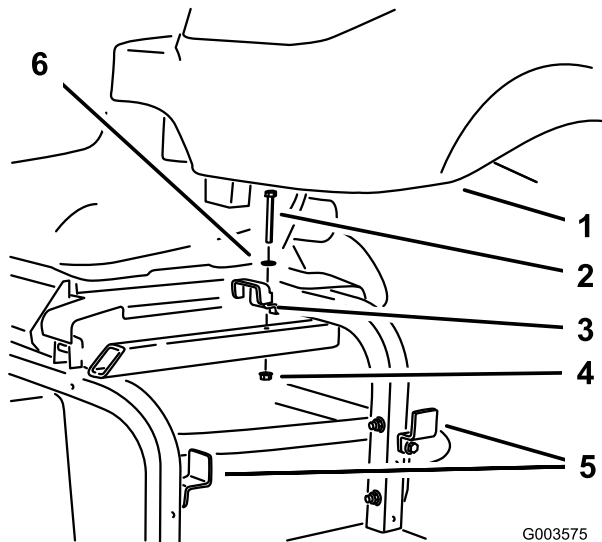

Figure 7
9. Remove the top hydraulic tank bracket from the machine frame and loosen the two brackets on the side of the frame. (Figure 7). Remove the tank and retain the hardware.